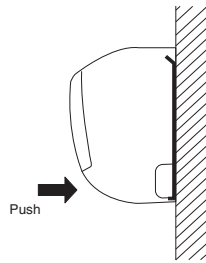

Fig. 3-92
- (1) To install the indoor unit, mount the indoor unit onto the 3 tabs on the upper part of the rear plate.
- (2) Hold down the air discharge outlet and press the lower part of the indoor unit until it clicks to securely fasten to the 2 tabs on the lower part of the rear plate. (Fig. 3-92)